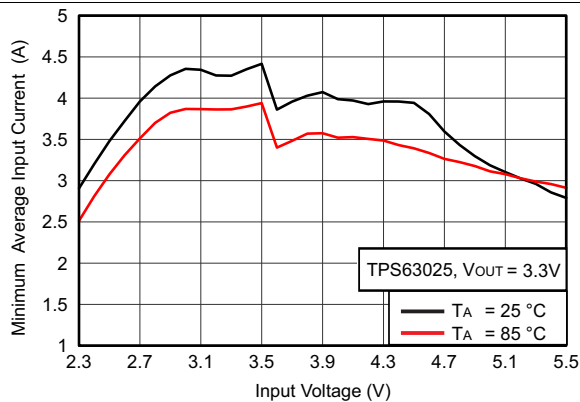

Figure 1. Minimum Average Input Current vs Input Voltage
(1) For minimum and maximum output current in a specific working point see Figure 1 and Equation 1 through Equation 4.
(2) Conditions: L = 1 μH, C_{OUT} = 2 × 22 μF.
(3) For variation of this parameter with Input voltage and temperature see Figure 1.
Given the curves provided in Figure 1, it is possible to calculate the output current reached in boost mode, using Equation 1 and Equation 2 and in buck mode using Equation 3 and Equation 4.
I_{IN} = Minimum average input current (Figure 1)